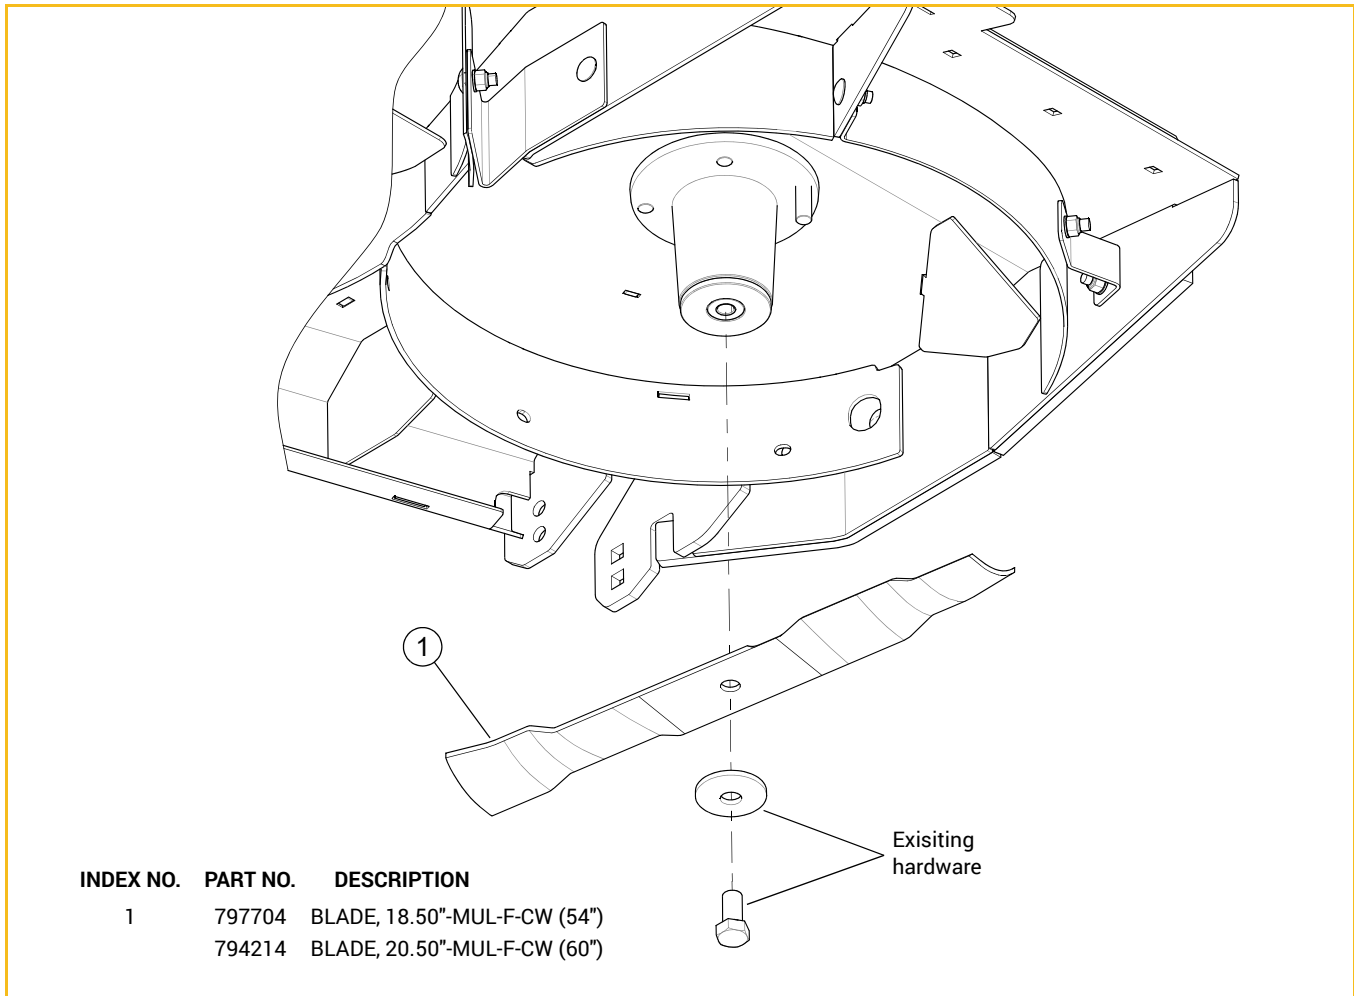

FIG. 6
10. Attach the mulching blades to the spindles using the existing blade hardware. (FIG. 6) Torque bolts on spindles to 118 ft-lbs. (160 N•m) when reinstalling the blades.